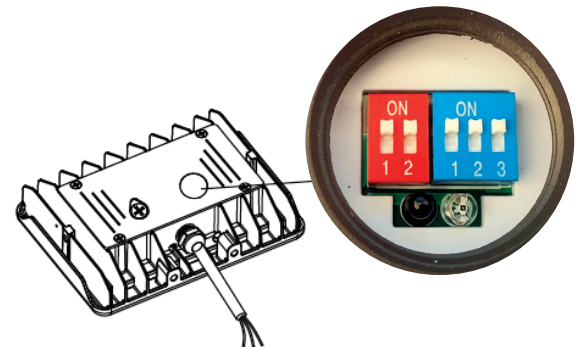

Fig. 7.1
1. Use a screwdriver or coin to unscrew the translucent plug (Fig. 7.1). Red DIP switches control CCT, Blue DIP switches control photocell (DIP 1) and wattage adjustment (DIP 2, 3). Refer to switch map below: